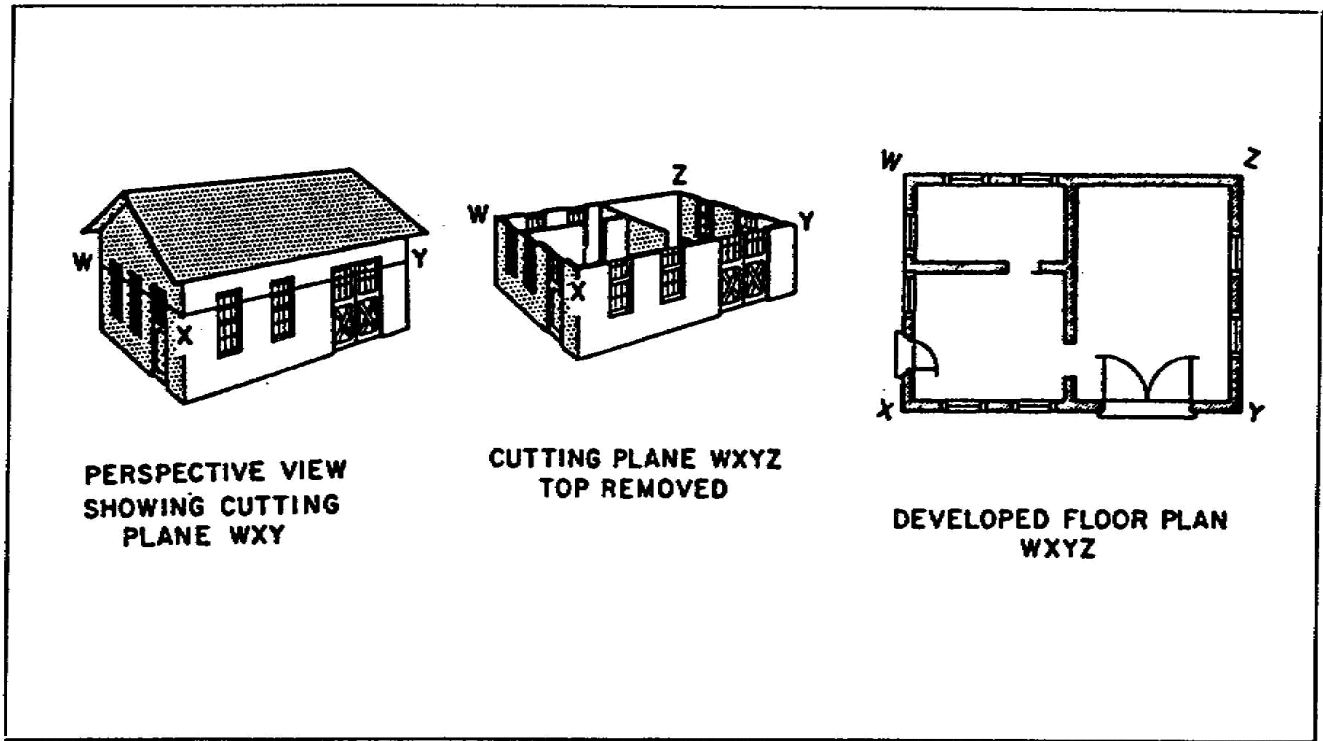

Figure 1-8. Floor-plan development
c. Floor Plan. A floor plan is a cross-sectional view of a building. The horizontal cut crosses all openings, regardless of their height from the floor. The development of a floor plan is shown in Figure 1-8, page 1-10. Note that a floor plan shows the outside shape of the building the arrangement, size, and shape of the rooms; the type of materials; and the length, thickness, and character of the building walls at a particular floor. A floor plan also includes the type, width, and location of the doors and windows; the types and locations of utility installations; and the location of stairways. A typical floor plan is shown in Figure 1-9, page 1-11.
(1) Drawings and Specifications. Drawings and specifications inform the contractor, owner, material dealers, and tradespeople of decisions made by the architect and owner of the structure. Floor plans are usually drawn to scale ($1/4" = 1'$ or $3/16" = 1'$). Symbols are used to indicate different types of fixtures and materials.